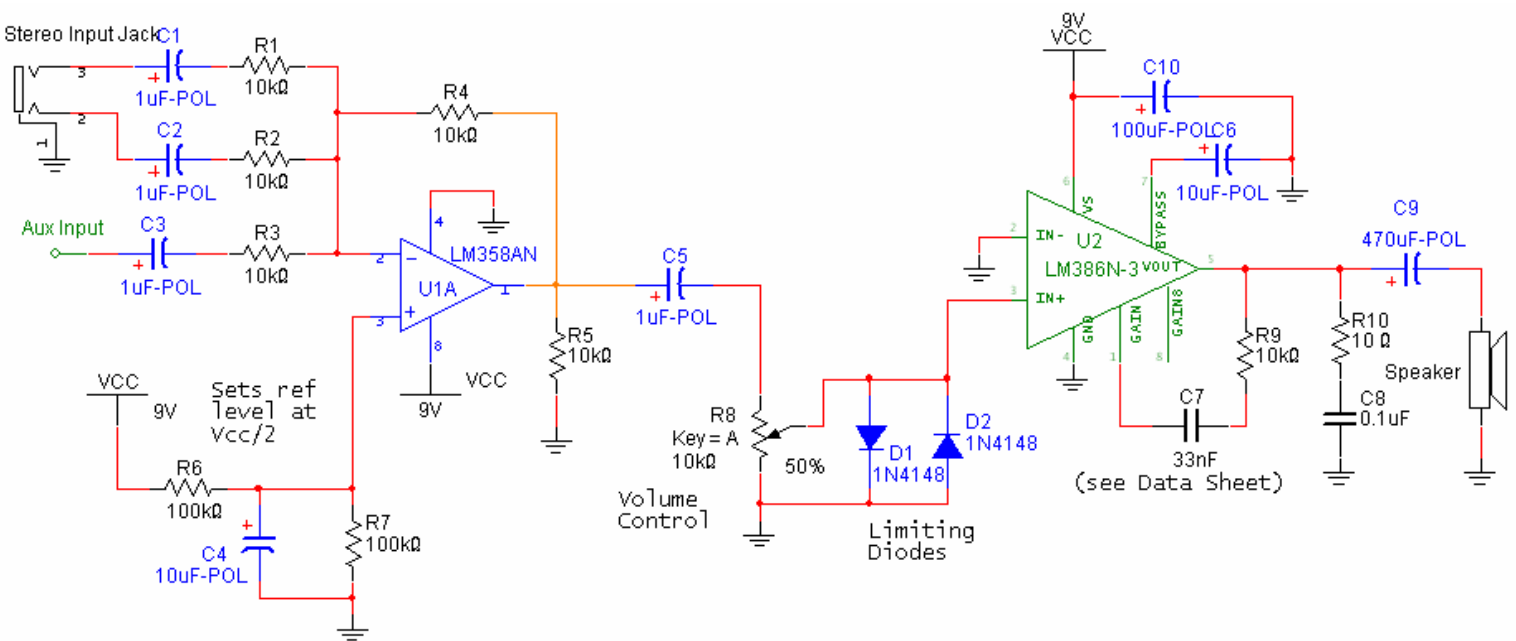

Figure 1-1 – Schematic for the basic audio amplifier.
- With reference to the full schematic in Figure 1-1 calculate the lower cutoff frequency imposed by capacitors C1-3 and R1-3 in the summing network: